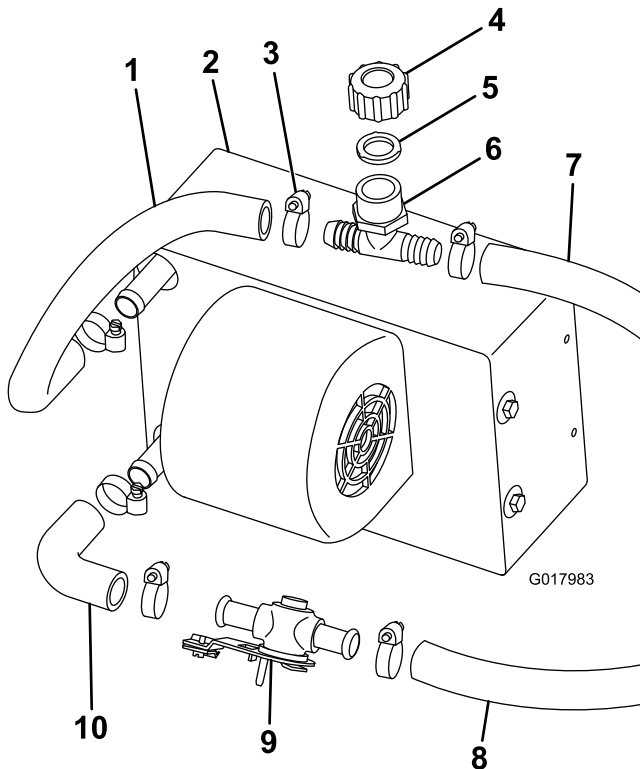

Figure 13
1. Attach the elbow hose to the bottom fitting of the heater assembly with a hose clamp (Figure 13).
2. Connect the heater valve to the elbow hose with a hose clamp (Figure 13).
3. Cut a 14 inch piece of 5/8 inch hose and attach it to the top fitting of the heater assembly with a hose clamp (Figure 13).
4. Connect the white fill tee, gasket, and cap to the upper heater hose with a hose clamp (Figure 13).